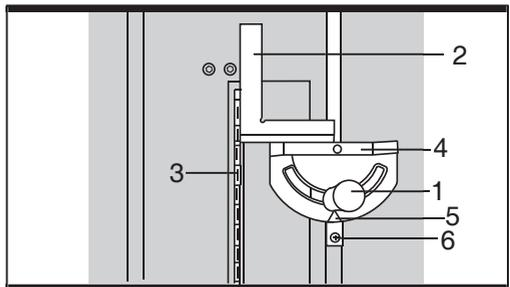

Fig 17
- 1) To adjust pointer 90° setting, loosen the clamp handle (1) and place a square (2) against both the saw blade (3) and mitre gauge (4). The pointer (5) should indicate 90° on the mitre gauge.
- 2) If the pointer does not point to 90° on the mitre gauge, tighten the clamp handle, loosen the pointer screw (6) on the bar, adjust the pointer to the 90° position and retighten the pointer screw (See fig. 17).